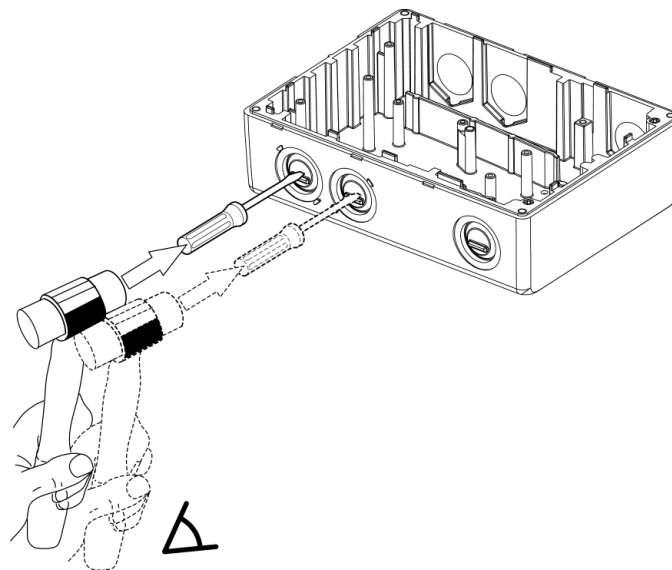

Figure 4-3 Gland Plate or “knockout” Removal
5. Using a hammer and a flat-head screwdriver (as shown in Figure 4-3) strike the gland plate or “knockout”.